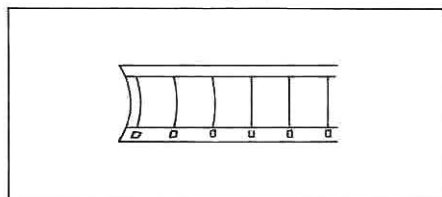

Fig. 4
- when the film end is twisted or curved as shown in Fig. 4.